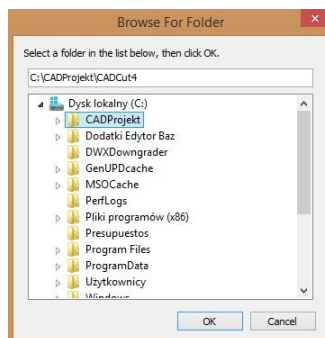

Fig. 11 – selecting installation folder
- To indicate a different installation location, click **'Browse'** and in a new window select the folder in which you want to save the files (Fig. 11).